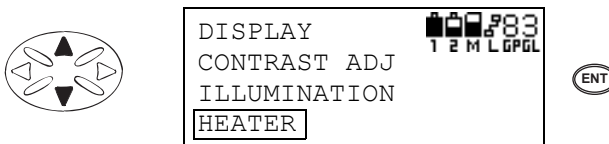

Figure 3-143. Select Heater Setting
3. On the Display screen, use the **up/down cursor key** to select HEATER and press **ENT** (Figure 3-143).